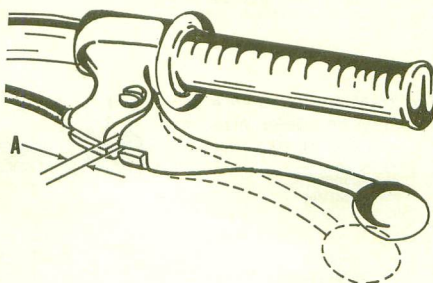
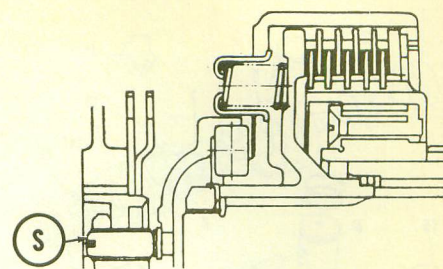

Fig. Y5-9—The clutch hand lever should have 2-3MM free play at (A).
Fig. Y5-10—The clutch adjusting screw (S) is located under the small, round cover on engine left side cover.
**CLUTCH CONTROLS.** The clutch hand lever should have 1/16-1/8 inch free play at (A—Fig. Y5-9). To adjust, remove the cover from left side of engine and loosen lock nut. Turn the adjusting screw (S—Fig. Y5-10) in until slight resistance is felt, then back screw out 1/4 turn and tighten lock nut. Turn the cable guide at ends of cable until the hand lever free play (A—Fig. Y5-9) is correct.